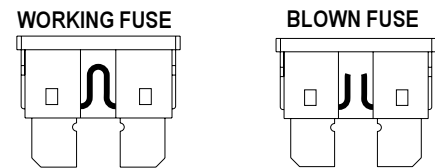

FIGURE 12. FUSE CONDITIONS
- Ensure that the 5-amp charger fuse has not blown. See figure 12.